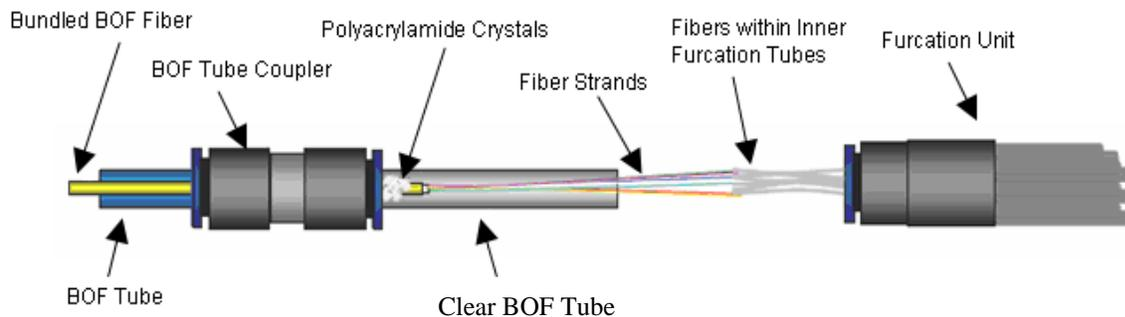

Figure 7
Step 1 – Insert each individual fiber into one of the loose tube buffer tubes within the furcation unit (Figure 7). Feed each fiber through the furcation unit until all of the fibers are protruding from the ends of the individual loose tube furcation cables. Once started into the buffer tubes, with care it is frequently possible to slide all of the fiber strands into the buffer tubes simultaneously. This significantly expedites the installation process.